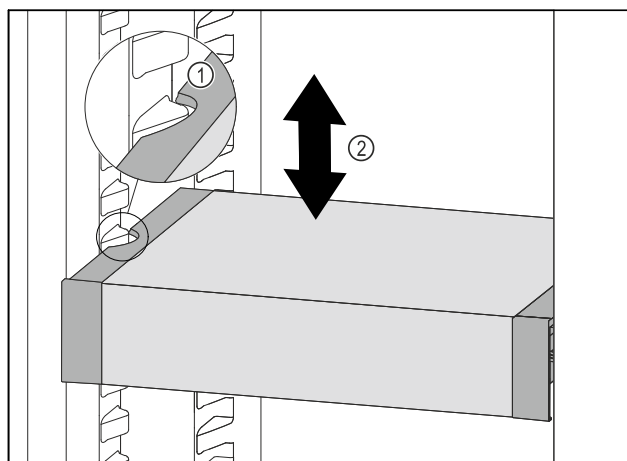

Fig. 103
- Pull VarioSafe forwards until the recesses in the side of the VarioSafe are at the level of the support rib in the refrigerator compartment. Fig. 103 (1)
- Move VarioSafe up or down in the refrigerator compartment until the desired height is reached. Fig. 103 (2)